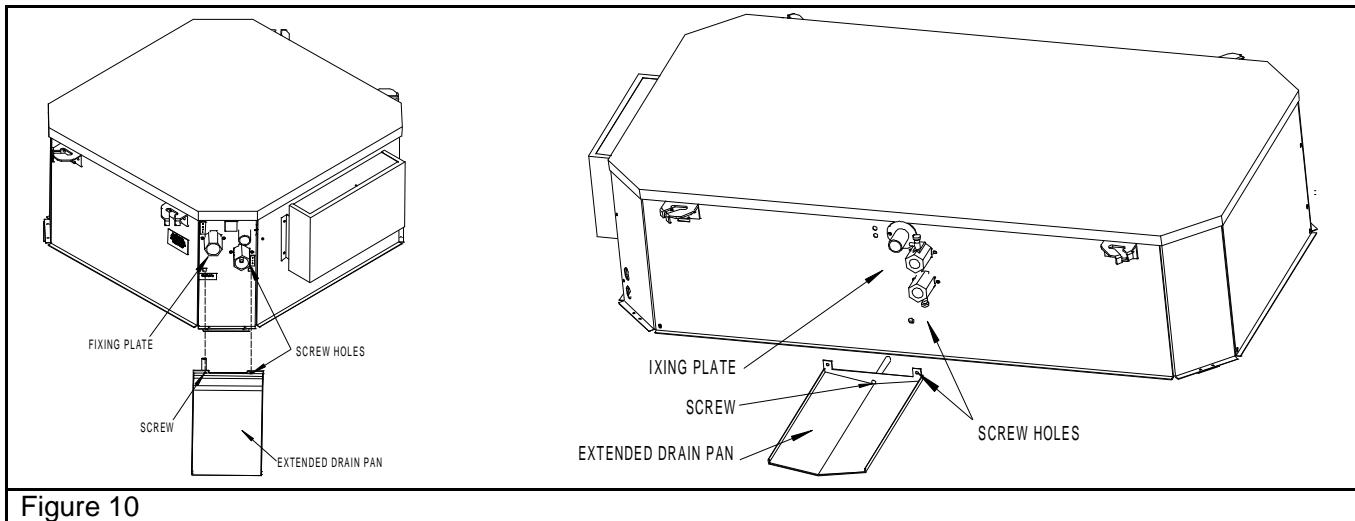

Figure 10
1. Align the two screw holes in the fixing plate to the two holes in the external drain pan. (Figure 10)